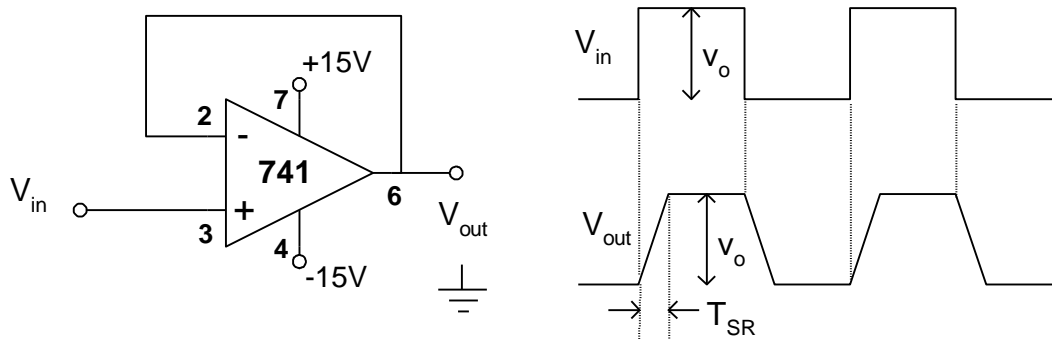

Figure 4: Set up to measure slew rate
6. Construct the circuit of Figure 4, apply a square wave of 20V p-p (here we assume that the dc supply voltage of the op-amp is $\pm 15V$ i.e. the 20V p-p represents the maximum output voltage of the op-amp) and if we keep the
- frequency at, say 1kHz, then the output will be as shown in Figure 4. Notice the effect of slew rate. The slew rate can be easily measured from the output $\text{Slew Rate} = V_{\text{out}}/T_{\text{SR}}$. Record your results in Table II.